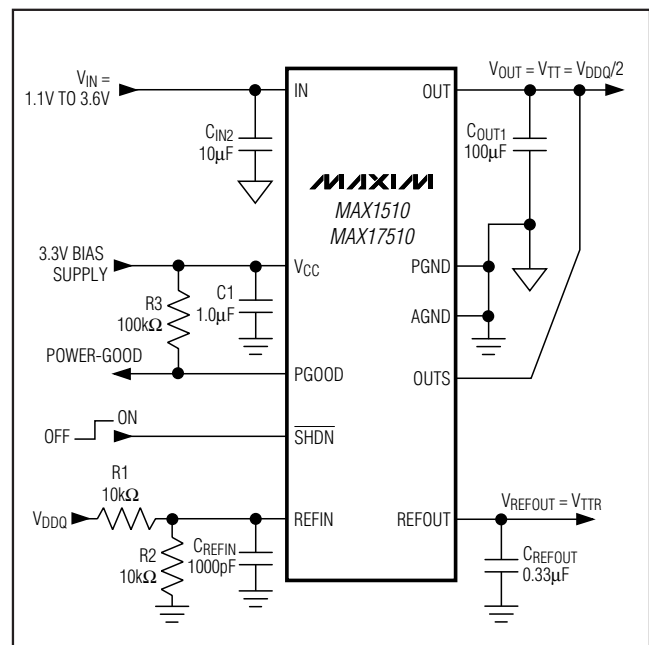

Figure 1. Standard Application Circuit
($V_{IN} = 1.8V$, $V_{CC} = 3.3V$, $V_{REFIN} = V_{OUTS} = 1.25V$, $\overline{SHDN} = V_{CC}$, circuit of Figure 1, $T_J = T_A = -40^\circ C$ to $+85^\circ C$ for MAX1510ETB, $T_J = T_A = -40^\circ C$ to $+125^\circ C$ for MAX17510ATB, unless otherwise noted. Typical values are at $T_A = +25^\circ C$.) (Note 1)
(Circuit of Figure 1. $T_A = +25^\circ\text{C}$, unless otherwise noted.)
The MAX1510/MAX17510 are low-voltage, low-dropout DDR termination linear regulators with an external bias supply input and a buffered reference output (see Figures 1 and 2). V_{CC} is powered by a 2.7V to 3.6V supply that is commonly available in laptop and desktop computers. The 3.3V bias supply drives the gate of the internal pass transistor, while a lower voltage input at the drain of the transistor (IN) is regulated to provide V_{OUT}. By using separate bias and power inputs, the MAX1510/MAX17510 can drive an n-channel high-side MOSFET and use a lower input voltage to provide better efficiency.
The MAX1510/MAX17510 regulate OUTS to the voltage set at REFIN, making the MAX1510/MAX17510 ideal for memory applications where the termination supply must track the supply voltage. Typically, REFIN is set by an external resistive voltage-divider connected to the memory supply (V_{DDQ}) as shown in Figure 1.